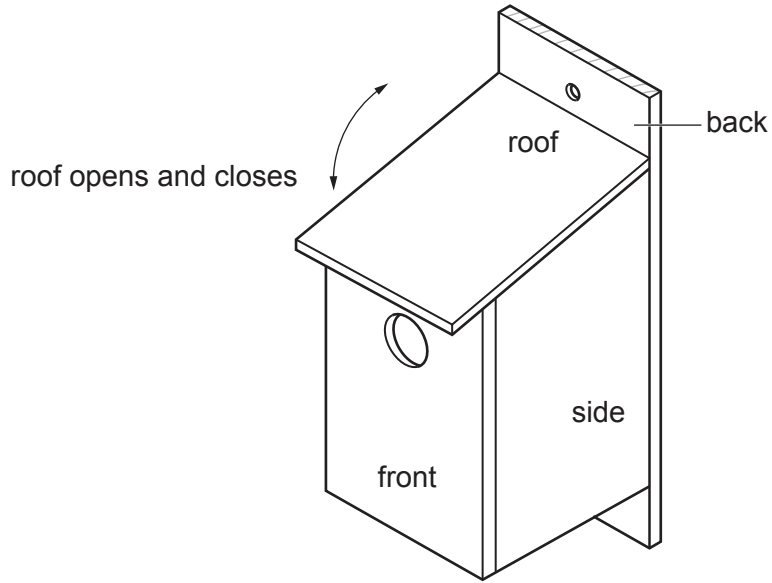

Fig. 13.1
- 13 Fig. 13.1 shows a nesting box made from 15 mm thick softwood. A batch of twenty nesting boxes is to be made in a school workshop.
(f) Use sketches and notes to show how the roof of the nesting box could be made to open and close as shown in Fig. 13.1.